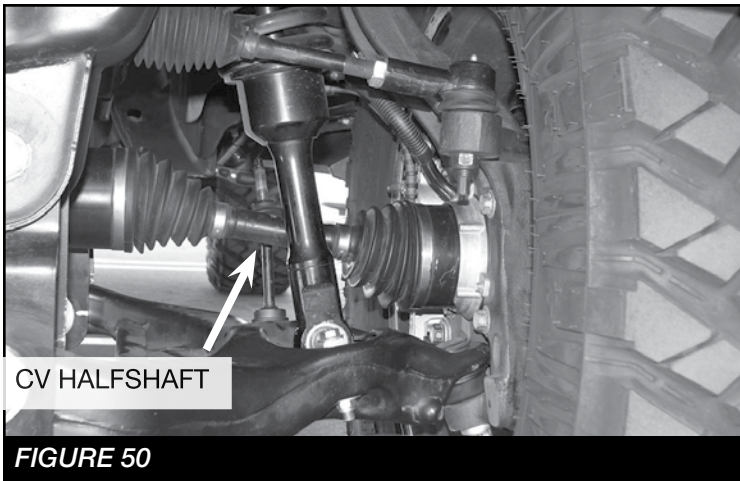

FIGURE 50
3. With the vehicle in PARK, start the engine. **NOTE: MAKE SURE THE VEHICLE IS PLACED IN 2WD.** Rotate the wheel/tire and check to see if the CV halfshaft rotates. If the CV halfshaft rotates, either a vacuum leak is present or the IWE (Intergrated Wheel End) was installed improperly. **NOTE: DO NOT OPERATE THE VEHICLE OR DAMAGE WILL OCCUR. SEE FIGURE 50**